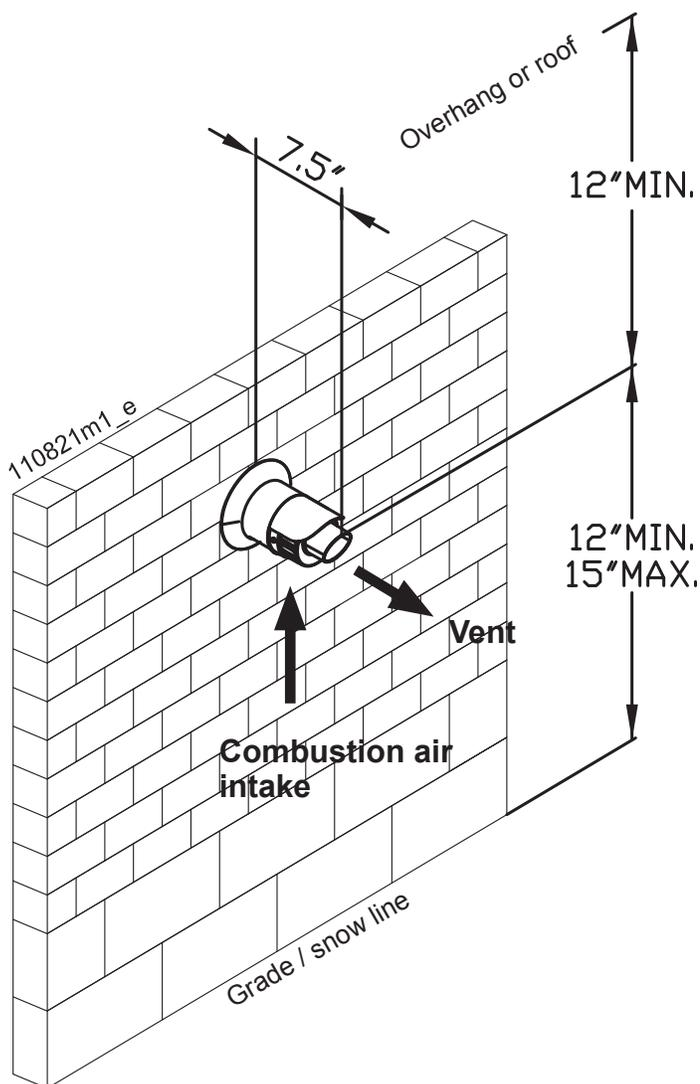

Figure 10-21 Concentric sidewall termination clearances
The termination kit must terminate outside the structure and must be installed as shown in Figure 10-21. The required concentric termination kit as well as combustion air and vent pipe materials are listed in Tables 10-1 and 10-2.
1. Determine the best location for the termination kit (see Figure 10-21).
4. Cut one (1) hole 5 inch diameter into the structure to install the termination kit.
NOTICE Ensure termination location clearance dimensions are as shown in Figure 10-21.